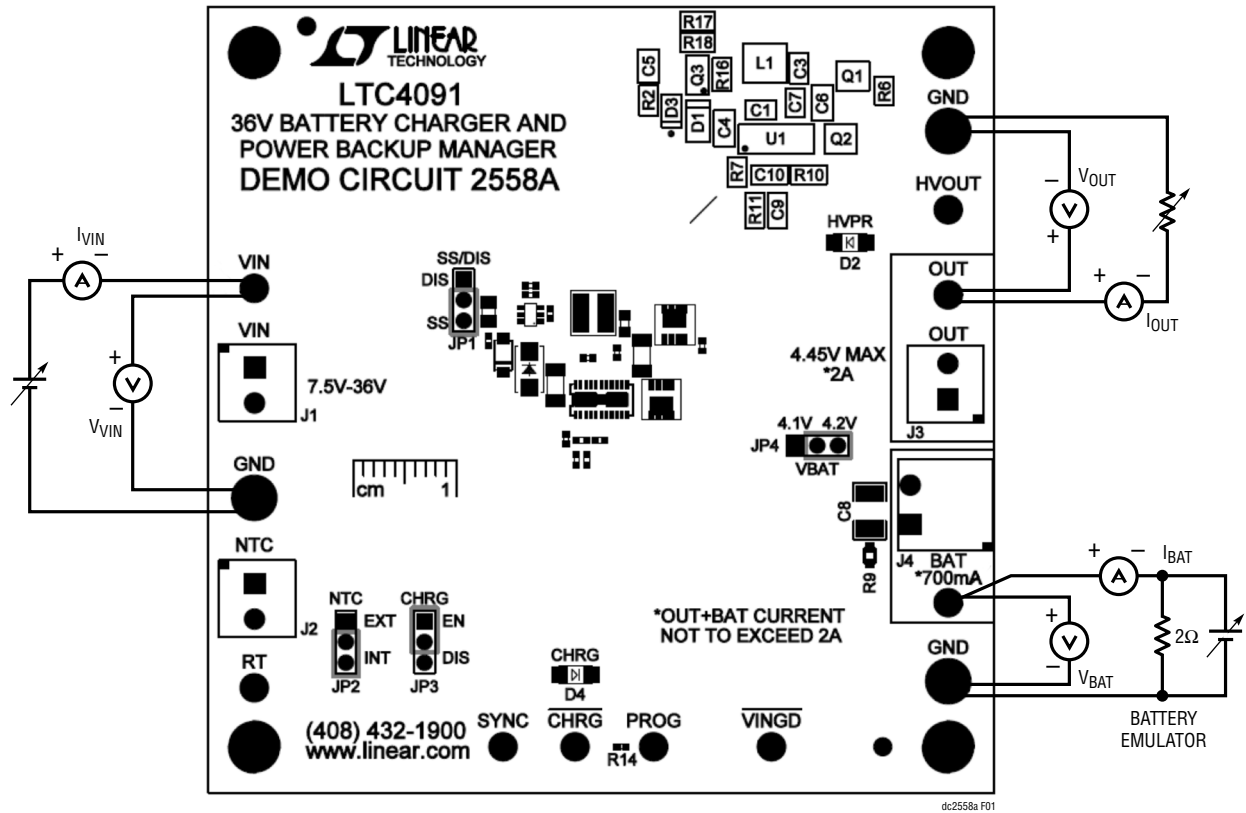

Figure 1. Proper Test Equipment Setup
Refer to Figure 1 for proper measurement equipment setup, and follow the procedure below:
1. With power off, connect the input power supplies, meters and output load as shown in Figure 1. For the V_{IN} input use a 0V-50V, 3A adjustable power supply. To emulate the cell, use a 0V-5V adjustable power supply that can deliver at least 3A in parallel with a 2Ω , 10W power resistor. Attach a 0A-2A adjustable load to the system output (OUT).